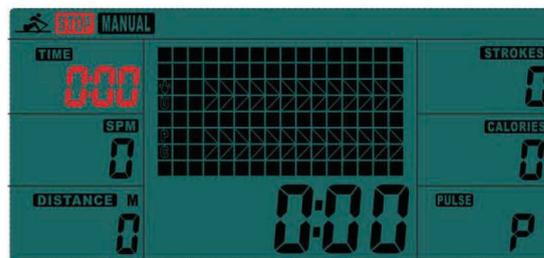

Fig. 4
4.4.1 MANUAL (Fig.4): There are 2 options in MANUAL mode.